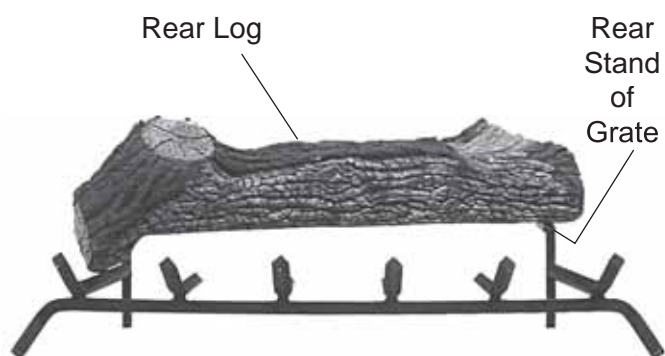

Figure 139 - Placing Rear Log #1 on Back Grate
2. Place Rear Log #1 on back of grate. Left side should fit on grate in front of rear stand. Right side goes on the rear stand of grate. *See Figure 139.*